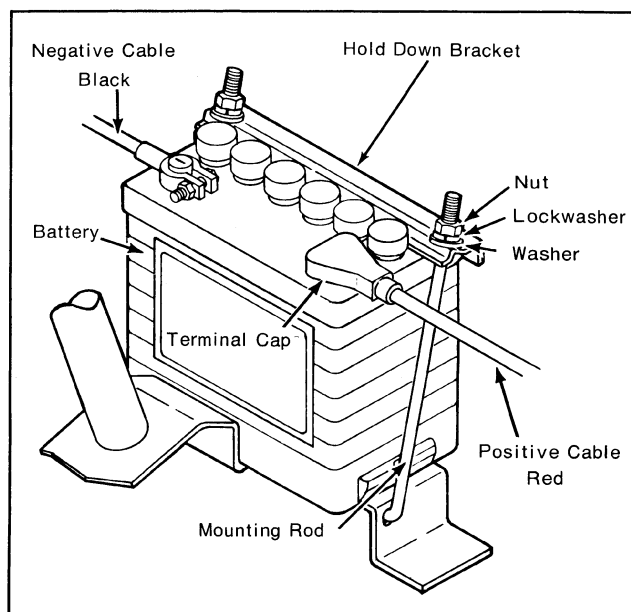

Figure 3
PUTTING BATTERY IN SERVICE (See Fig. 3)
4. Remove the nut, lockwasher and washer from each battery mounting rod and remove the battery mounting bracket (See Fig. 3).